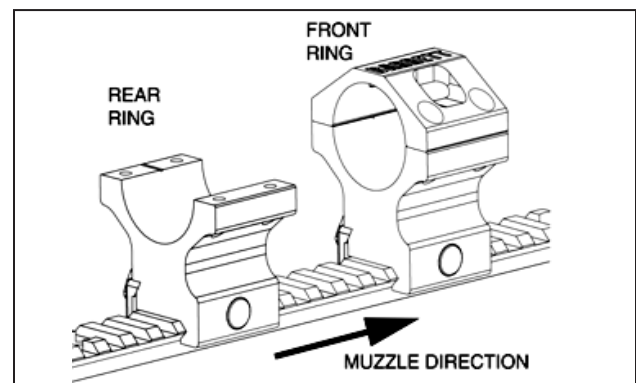

Figure 4.
3. Remove one of the scope ring caps and place the scope rings on the 1913 mounting rail eight slots apart with just the ring base towards the rear. From side view, four complete mounting ridges will be visible. Push and hold the scope ring toward the muzzle end and hand-tighten the clamp nuts on both rings ensuring a stable work platform (proper eye relief may be achieved later by moving the entire assembly). Figure 4.